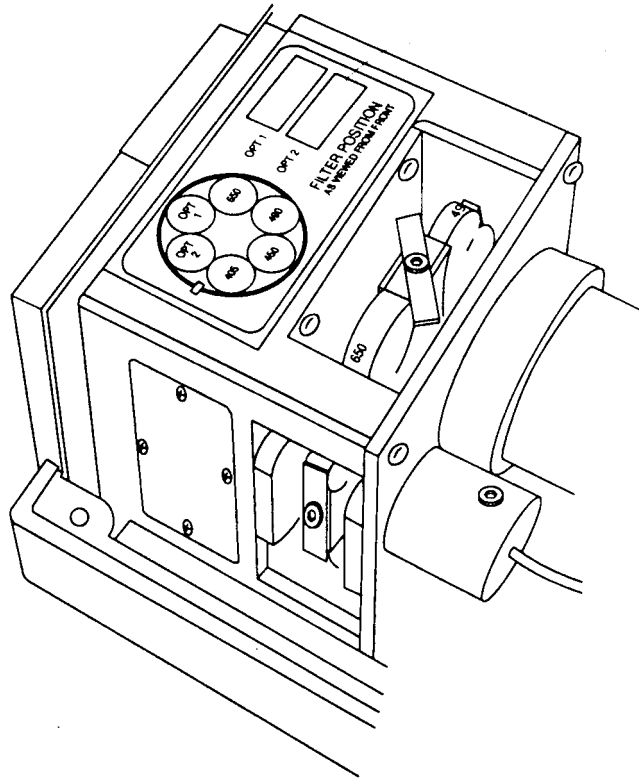

Figure 13: Filter Wheel Housing with Bracket Turned Sideways
- 3) DO NOT REMOVE THIS SCREW OR THE BRACKET(S). Turn the bracket sideways as shown in Figure 13.